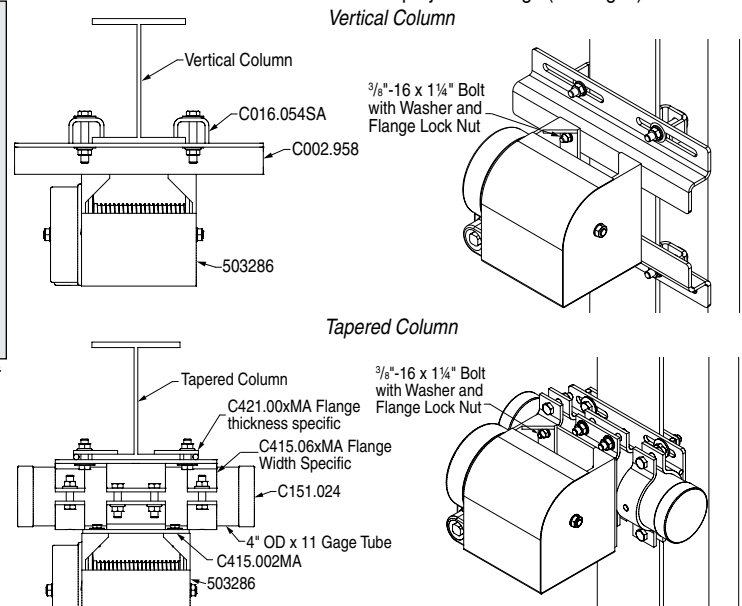

Figure 2
- B) To mount to plate or other steel brackets. - Winch is attached to steel plate or brackets using 3/8"-16 x 1 1/4" hex head bolts and flange lock nuts. Attach to column or other surface as shown on project drawings (see Fig. 2).